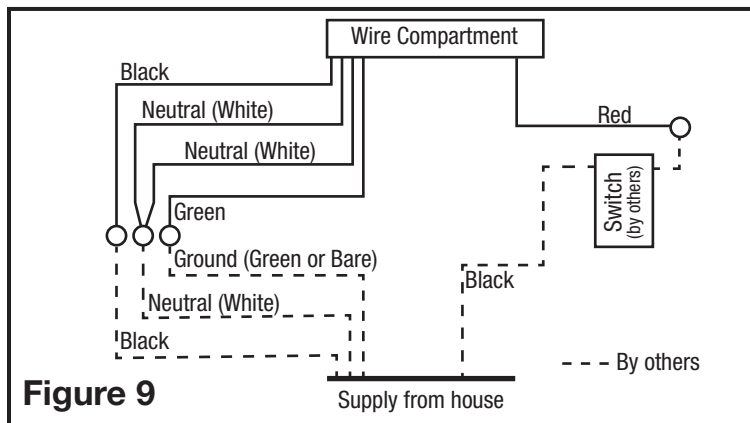

Figure 9
3. Secure the electrical wires to the housing with an approved electrical connector. For two speed fans wired for continuous ventilation, connect the White wires of the fan to the White (Neutral) wire from the power source. Connect the ground wire from the house to the green wire from the fan housing. Connect the Black wire of the fan to the Black wire (Hot) from the power source. The fan will operate on low speed continuously and boost to high speed when motion is detected. Using a properly grounded standard duplex toggle switch (such as Leviton 5224-2W, not included) connect the black wire from the supply to one side of the top and bottom switch. Connect the red wire (light) from the fan housing to the other side of the top switch. A manual override switch (not included) can be used to provide a manual fan Off function (Figure 9).